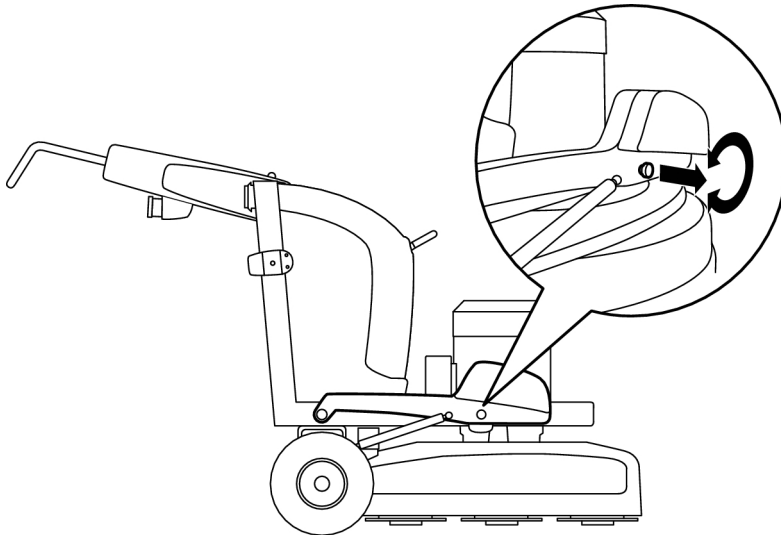

Figure 4-6. Weights lowered forwards
- Pull each pin out and lock in the extracted position by turning in the direction of the arrow, see Figure 4-6, page 21.
To obtain a greater grinding pressure, and thereby increased grinding effect, the weights are lowered forwards, see Figure 4-6, page 21.